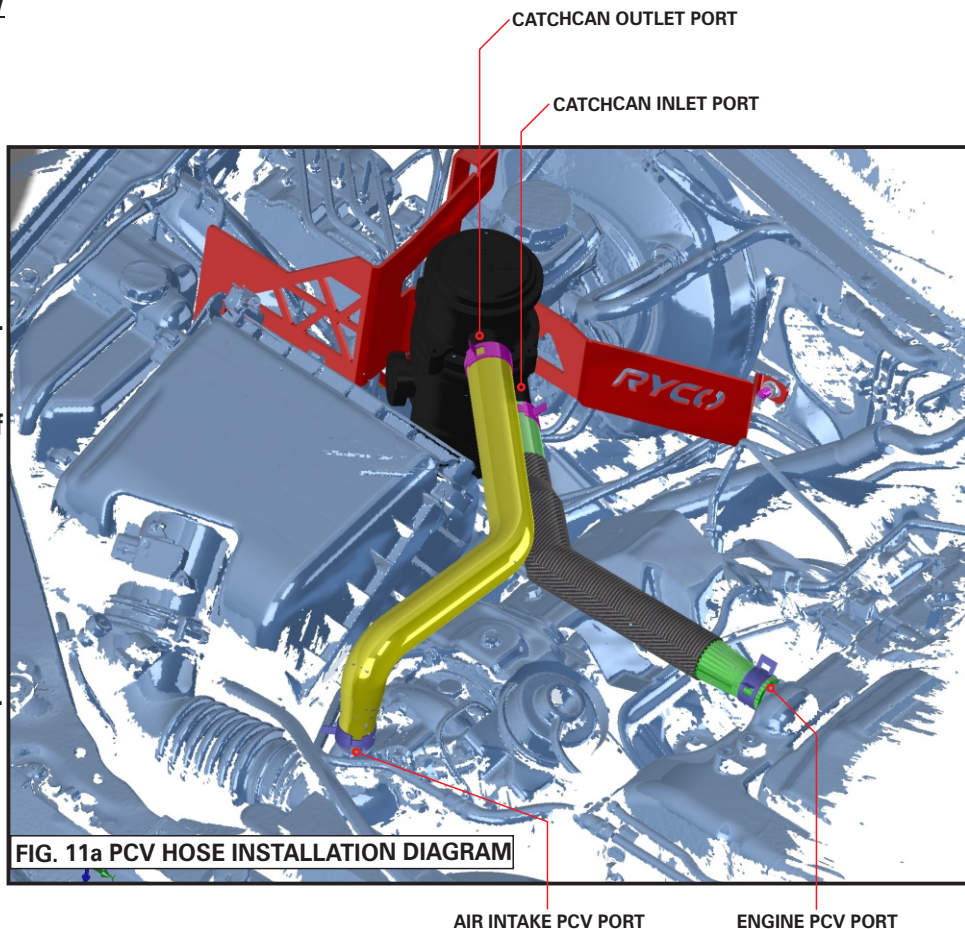

FIG. 11a PCV HOSE INSTALLATION DIAGRAM
13. Install the other end of the MH9810B PCV hose on to the lower, inlet port, of the RCC351 Catchcan and tighten with the MS4091 hose clamp as shown in Fig. 11a & 11b.
14. Install the larger end of the MH9810A hose on to the upper, outlet port, of the RCC351 Cathcan and tighten with a MS4091 hose clamp. Install the other end of the MH9810A PCV hose on to the Air Intake PCV port and tighten with a MS4094 hose clamp as shown in Fig. 11a & 11b.